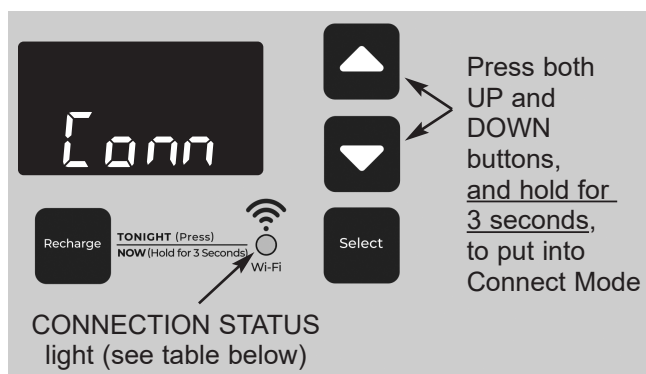

FIG. 31
3. On the water softener's front panel (see Fig. 31), press both the $\triangle$ UP and ∇ DOWN buttons, and hold them for 3 seconds.
4. Release the buttons when “Conn” appears in the display (See Fig. 31) and the connection status light begins flashing amber.